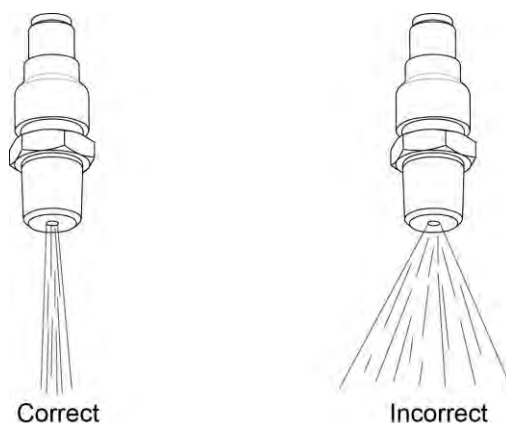

Figure 8
- I. Examine the fuel flow from each injection nozzle to make sure the fuel stream is not scattered (which is an indication of blockage in the injection nozzle) identified as “Incorrect” in Figure 8.